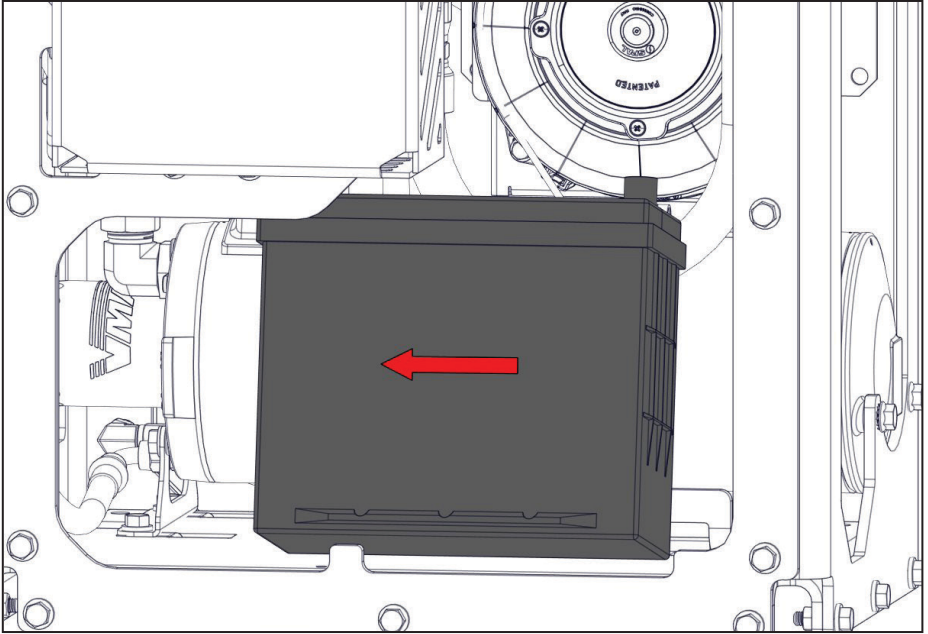

Figure 62 — Remove battery
- Tilt the battery up and slide it back a few inches (Figure 62).